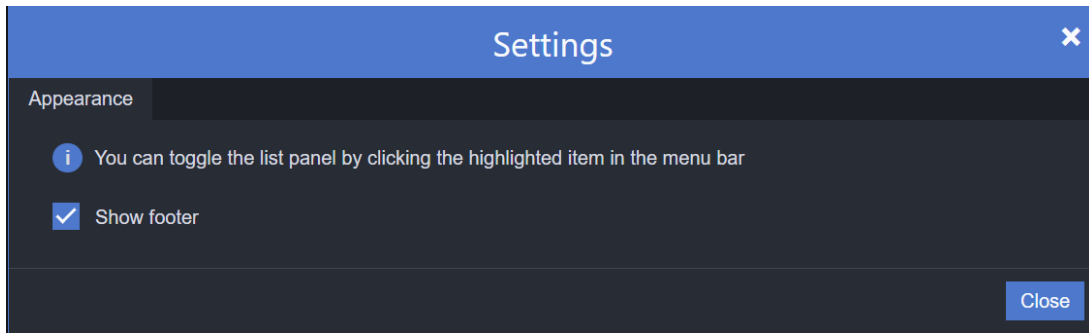
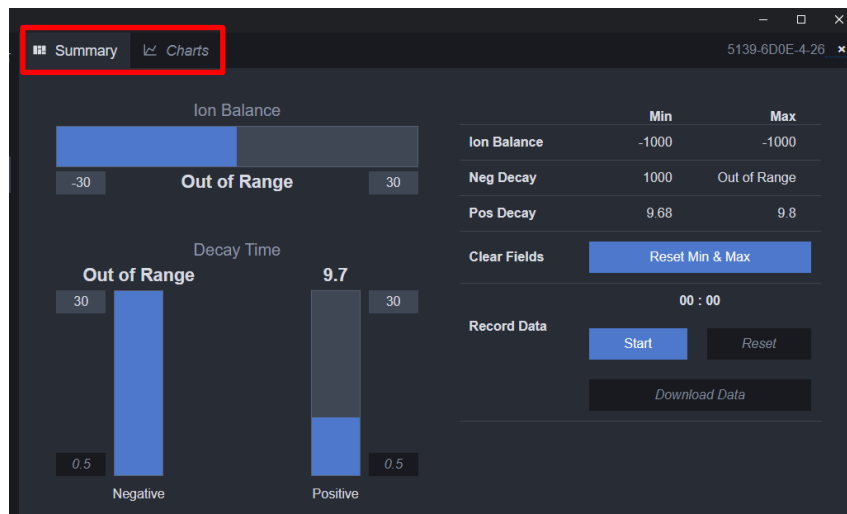

Figure 4.3
Figure 4.4 Summary View
-  Settings Icon – Allows the user to hide/unhide the green NRD footer (Figure 4.3)
The tabs that are shown in the red box (Figure 4.3) enables the user to easily transition between the default summary view (Figure 4.4) and the chart view (Figure 4.4). The summary view allows the user to visualize data in a bar graph format; it also allows the user to view & reset minimum and maximum data as well as record the data (Figure 4.4). Refer to sections 4.4 and 5.0 to learn more about the editing boxes and recording data functions.